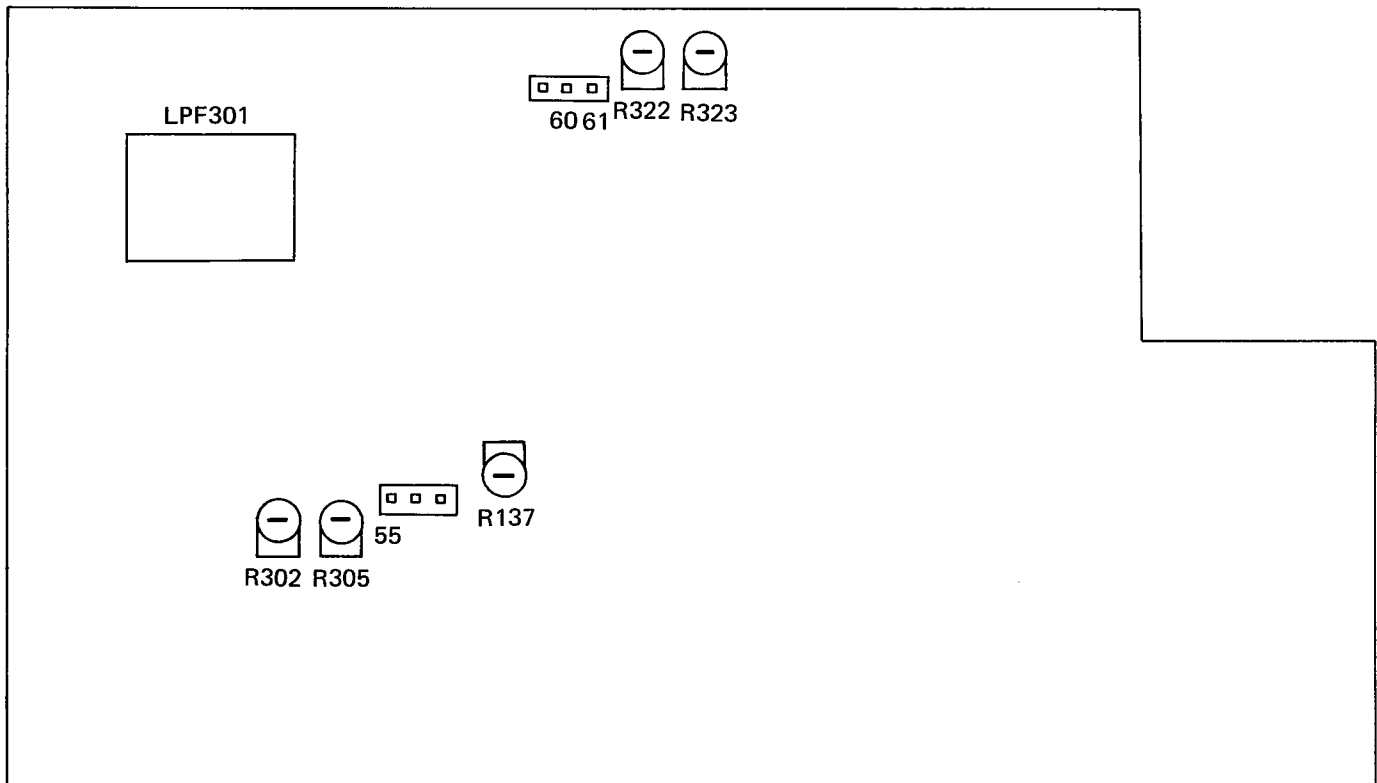

Figure 3. MPX/REGULATOR CIRCUIT BOARD (TOP VIEW)
8. Set IF BAND switch to "NARROW" position again and adjust R137 (Figure 3) until M2 indicates a " 4.5 ± 0.3 " meter reading.
4. Tune the unit for 108 MHz unmodulated signal and adjust R302 (Figure 3) for 75.93 to 76.07 KHz for correct VCO.
5. Adjust generator to ± 7.5 KHz deviation for 19 KHz pilot signal. Using VTVM, adjust R305 (Figure 3) so that test points "60" and "61" are at the same potential. (Less than 15 millivolts)
6. Adjust generator to ± 67.5 KHz deviation at 1000 Hz for L-channel and to ± 7.5 KHz deviation for 19 KHz pilot signal. Adjust R322 (Figure 3) for minimum output of R-channel.
9. Set IF BAND switch to "NARROW" position and adjust R323 (Figure 3) in the same procedure as steps 6, 7 and 8.